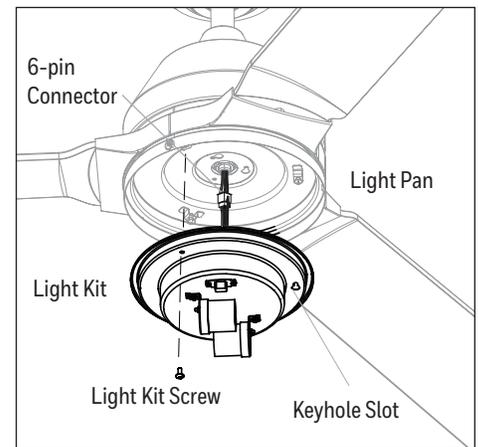

Figure 5.6
6. Remove one of the three light kit screws from the light pan and loosen the other two but do not remove. Connect the 6-pin connector from the fan to the 6-pin connector from the light kit. Lift the two keyhole slots in the light kit over the two loosened light kit screws and turn in a clockwise direction. Then, use the previously removed light kit screw to secure the light kit to the light pan. Tighten all screws (Figure 5.6).